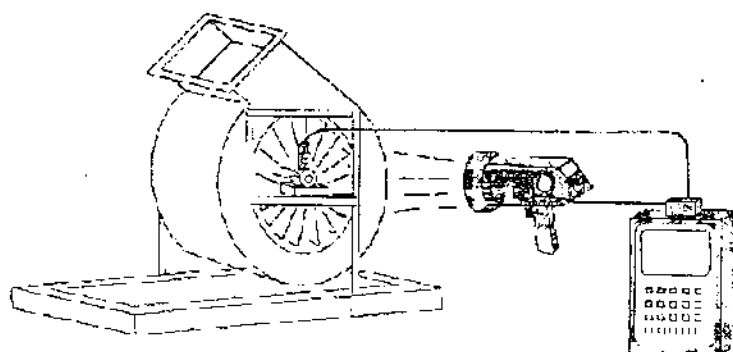

Figure 1
3. Stand-alone strobe light that has built-in vibration sensor triggering circuit with phase adjustment knob, plus built in oscillator and flash control knob and digital RPM readout. It has the functionality as in 2 above, plus the user can lock onto the vibration sensor, which is a signal that contains phase information. In the lock mode, a speed reference signal that has related phase information is available as an output which can be used for recording by data loggers, as shown in Figure 1, or other instruments. The strobe may also have the ability to be triggered externally.